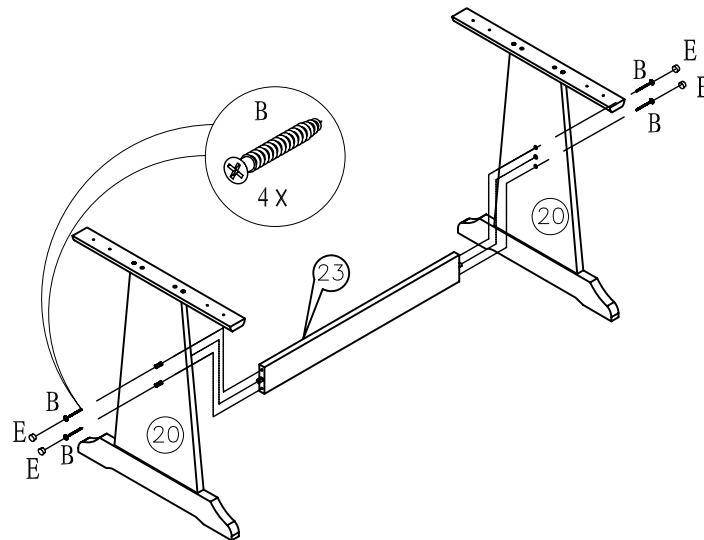

FIGURE 3
- 3.1 ATTACH CROSSBAR #23 TO LEGS #20 INSERTING WOOD DOWELS LOCATED AT ENDS OF CROSSBAR INTO HOLES LOCATED ON LEGS. SECURE CONNECTION USING (04) SCREWS (B). AS SHOWN IN FIGURE 3.
- 3.2 INSERT (04) WOOD HOLE COVERS (E) INTO HOLES LOCATED AT LEGS #20. AS SHOWN IN FIGURE 3.